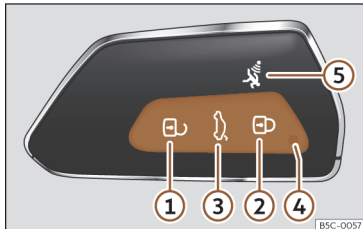

Fig. 69 Vehicle key
When a button is pressed briefly on the vehicle key, the control lamp (4) >>> Fig. 69 flashes once briefly, but if pressed for a long period of time, it will flash several times, for example, in the convenience opening.